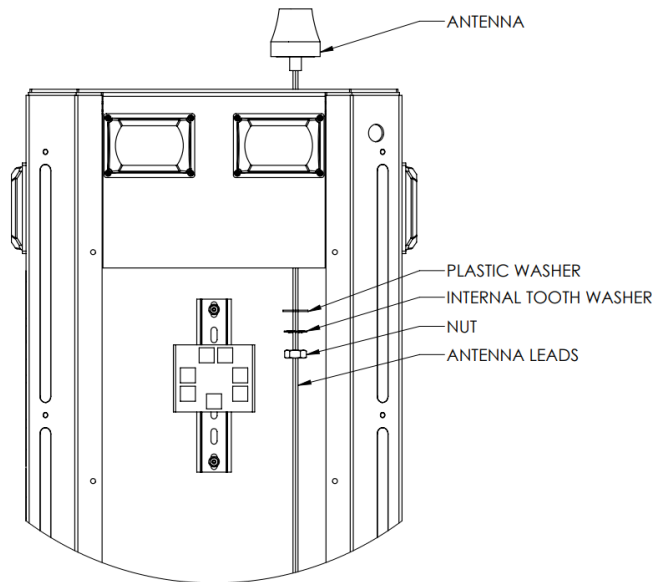

Figure 12 Rear view of a tower showing proper installation of the antenna.
- Feed the cables through the hole in the top cap until the antenna sits on the surface (see Figure 12).
- Thread the red plastic washer, tooth lock washer, and nut back onto the antenna cables (see Figure 12).